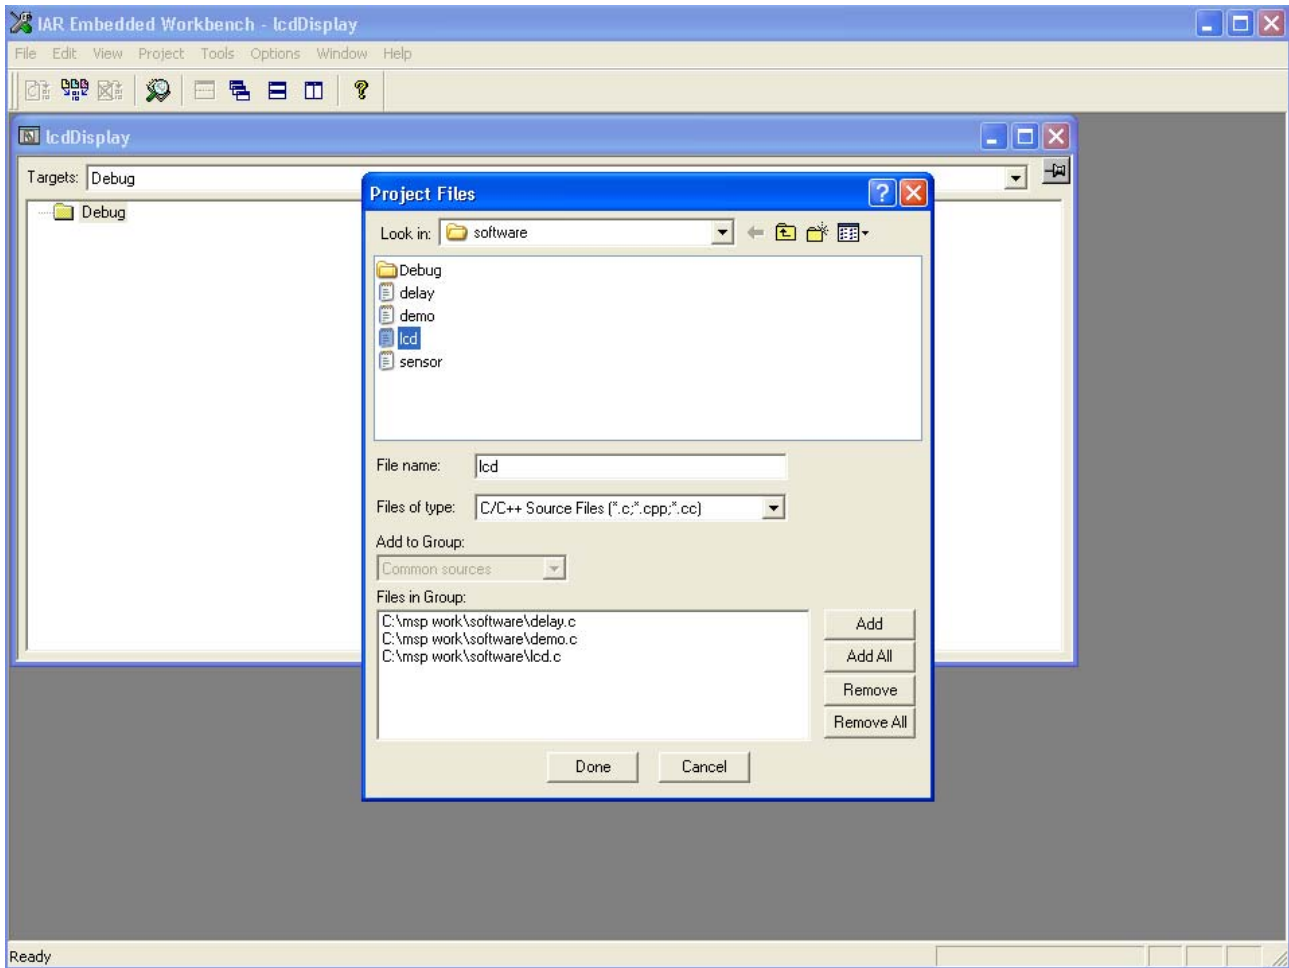
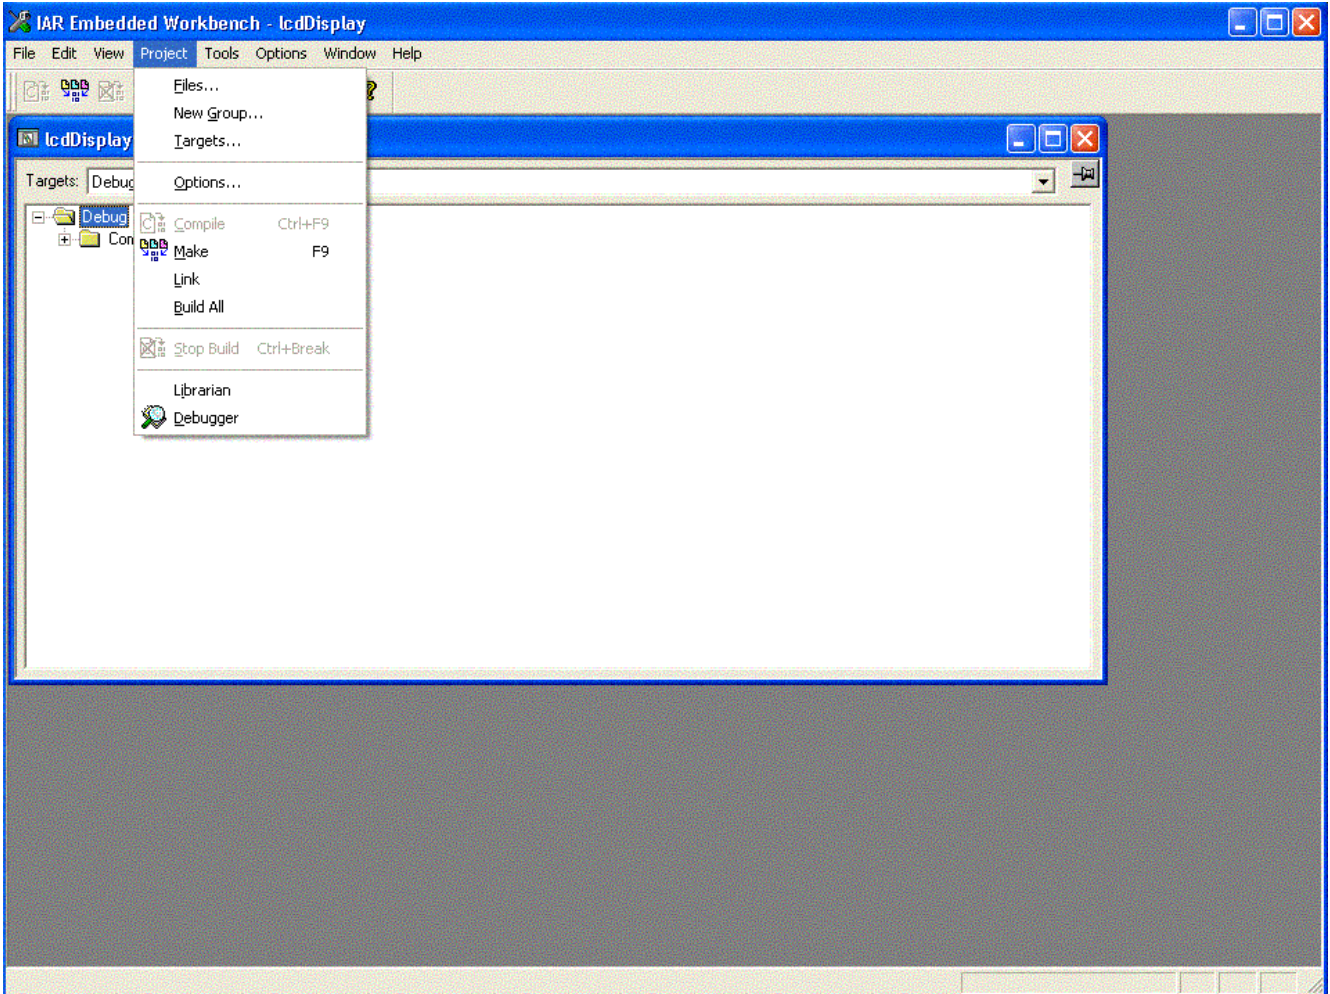

Figure 13: Showing procedure in building software, Step 7.
Figure 14: Showing procedure in building software, Step 8.
Step 7: In successive order, double click (or click one and hit Add) on **delay, demo, and lcd**. This will produce the screen shown in Figure 13.
Step 8: Select **Done** (at the bottom of the Project Files window shown in Figure 13, after you click on **Project**) to produce the screen in Figure 14.
- Step 9: Select **Project /Build all** from Figure 14 to produce the screen shown in Figure 15, provided there are no errors in the compile/linking stage.